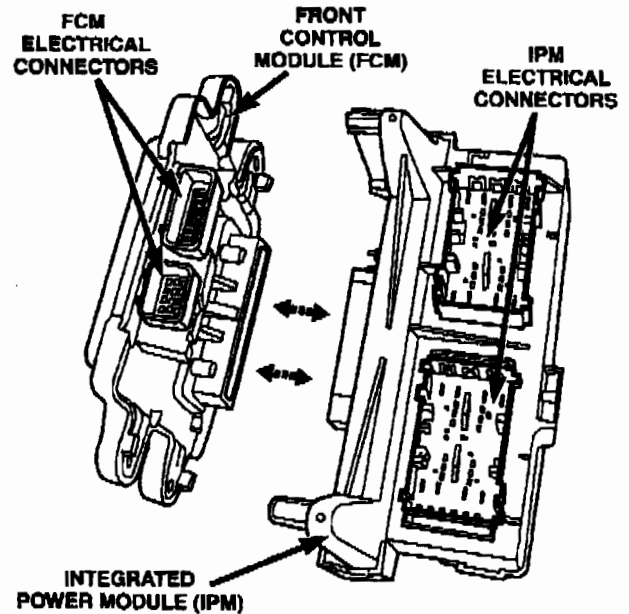

Figure 5
8. Separate the original FCM from the IPM by pulling the two straight away from each other to disengage the electrical connector (Figure 5).
10. Connect the new FCM to the IPM by lining up the electrical connector and pushing the two modules together (Figure 5).